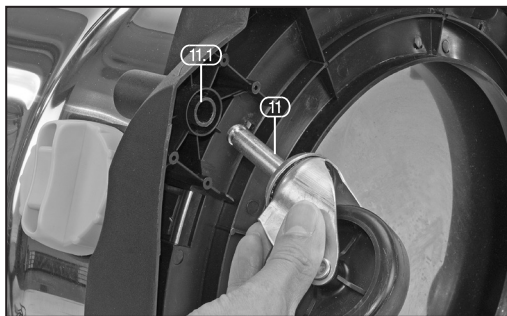

FIG. 3
6.2 FITTING THE CASTORS – FIG. 3
- Snap-fit the 2 castors (11) into the slots (11.1) situated on the underside of the machine base to complete the transport assembly.